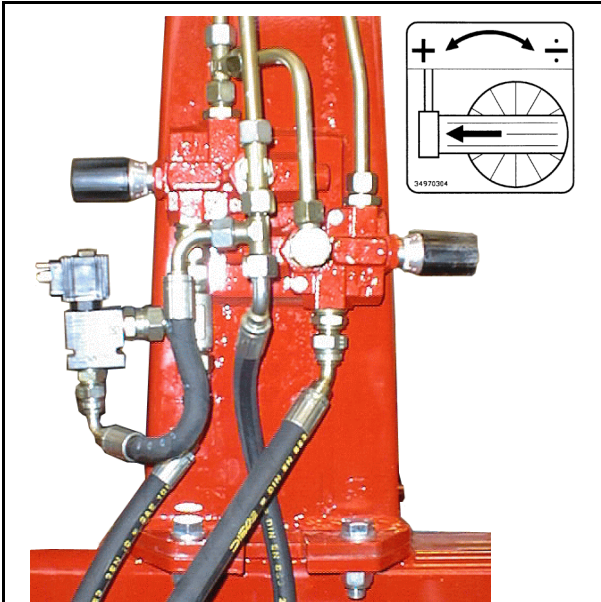

Fig. 7-1
- 7.1 Start the motor, let it run at approx. 2400 revolutions per min. The oil flow to the packing machine is adjusted with the use of two control valves which are situated behind the machines "neck". [see fig. 7-1]